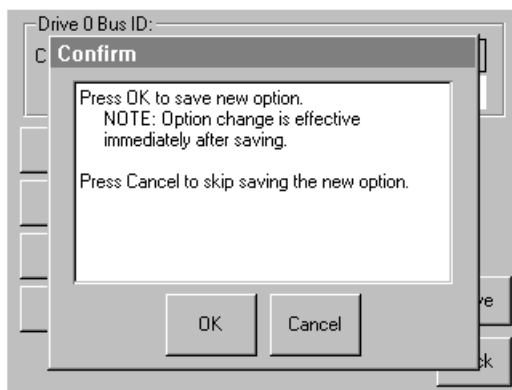

Figure 21: SCSI ID confirmation screen
- c. Touch the **Save** option to confirm your request. A confirmation screen is displayed (see Figure 21).